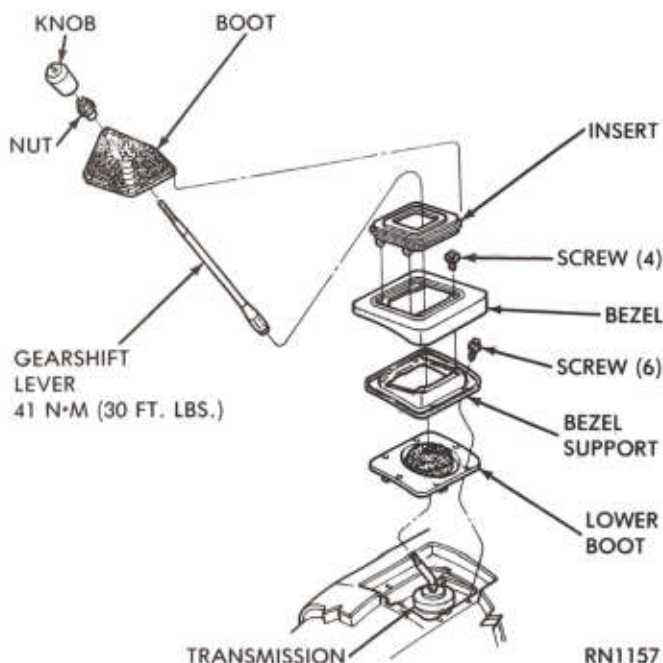

Fig. 1—Gearshift Lever and Boot Assembly
(1) Remove gearshift lever from shifter assembly (Fig. 1).